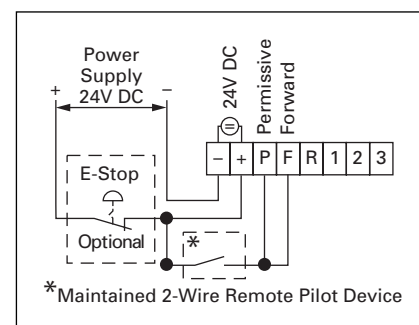

Figure 2. 2-Wire Non-Reversing
Figure 2 illustrates the connections for 2-wire control. The maintained run contact is connected to the Forward input (F). This is the same as the requirement for a typical electro-mechanical device with the addition of a second connection from the run contact to the Permissive input (P) of the **IT.** device. Control power is simultaneously applied to both the Permissive and Forward inputs.